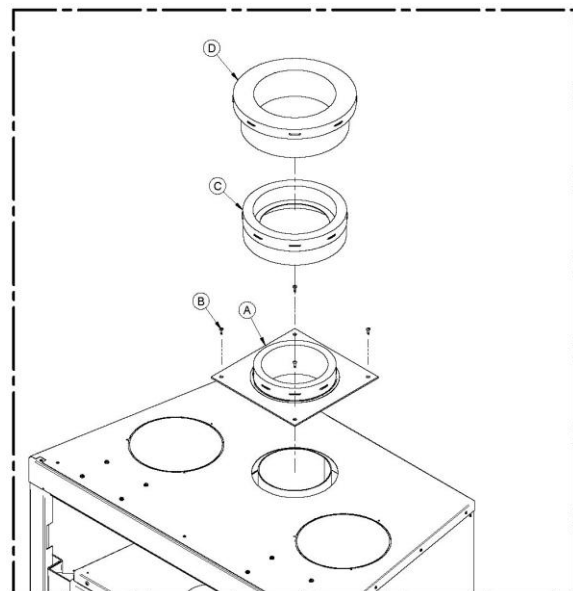

Figure 42
*This fireplace may be installed with a 7-inch chimney of the same type as the ones listed in the above table, provided that a 6" to 7" insulated increasser (see figure 42, parts C and D), supplied by the chimney manufacturer, is installed for the transition between the 6-inch anchor plate(see figure 42 part A) wich can be secured vith screws (see figure 42 part B) and the 7-inch flue. For Security Chimneys, the part number is 6AW7.